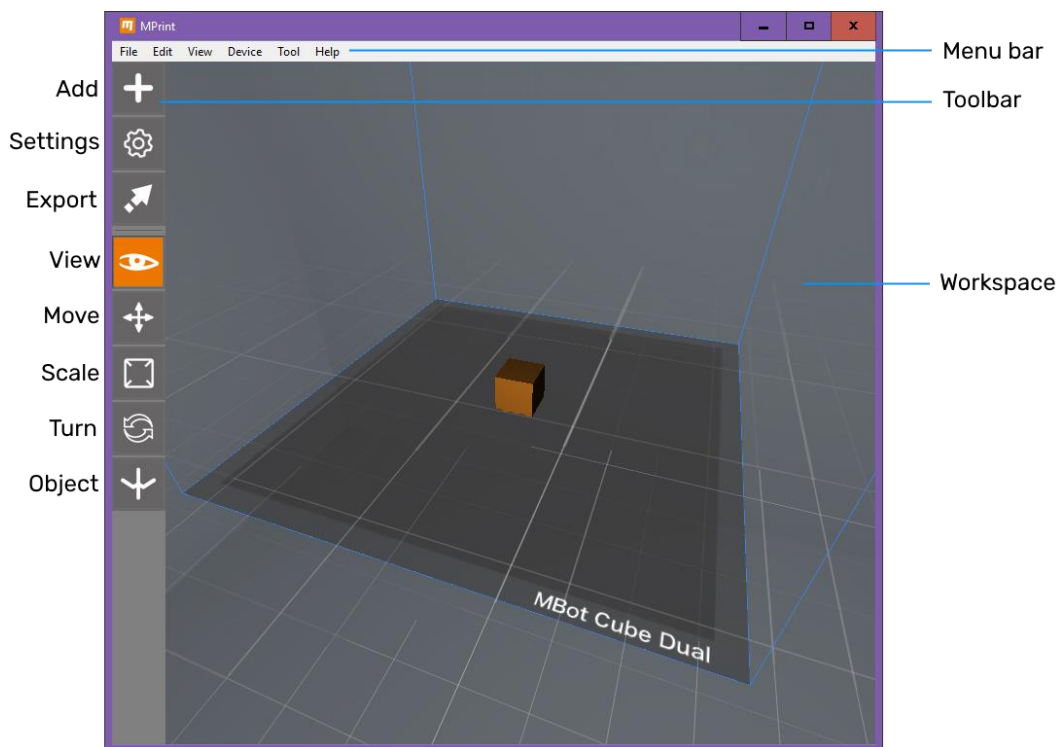

Figure 16 : Main Features of the MPrint® Software User Interface
2. From the **Examples** menu, choose **20x20x20mm_cube.stl**. The cube is shown as in Figure 16.